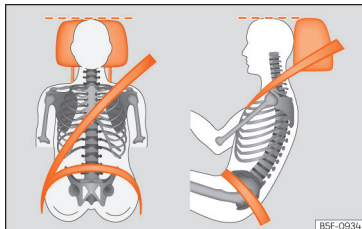

Fig. 85 Correctly adjusted head restraint as viewed from the front and the side.
- Adjust the head restraint so that its upper edge is, as far as possible, at the same level as the top of your head, or at the very least, at eye level »» Fig. 85.